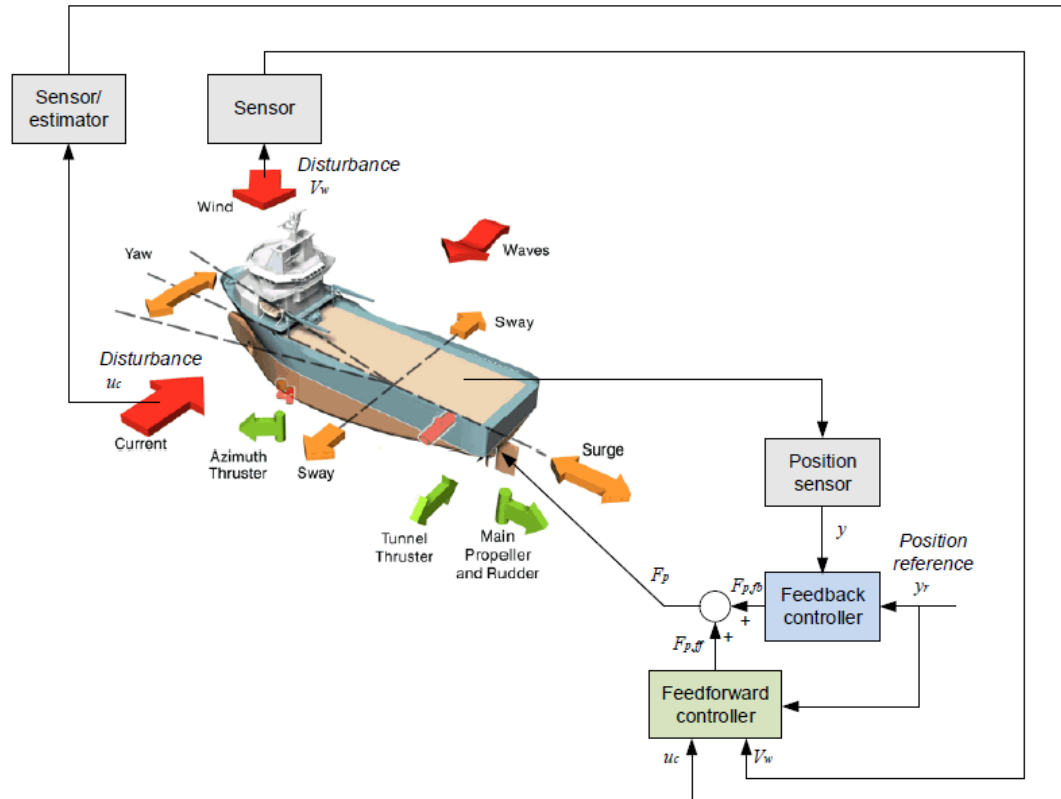

Figure 7: Feedforward (and feedback) control of ship position.
1. Dynamic positioning (ship position control): Feedforward from measured wind speed and angle, estimated water current, and position setpoint. See Figure 7.